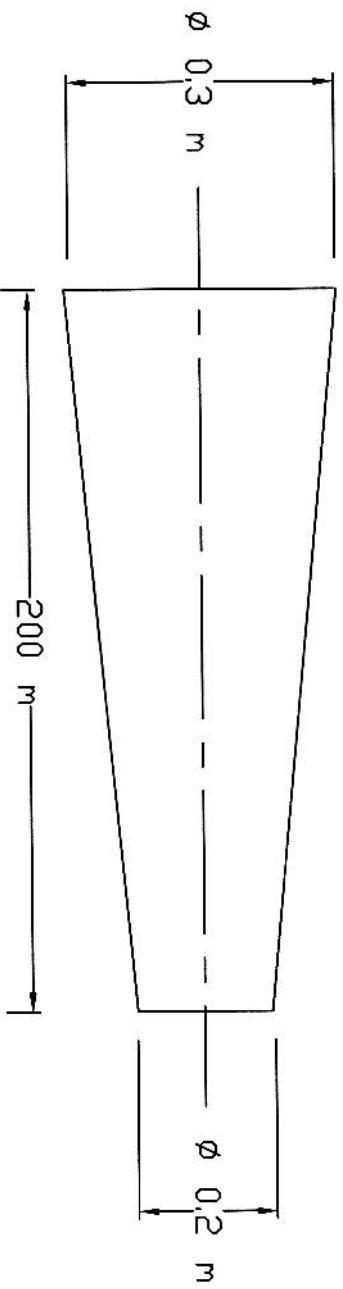

Fig 2
- (c) What do you mean by non Newtonian fluid? Give two examples of non Newtonian fluid. (4)
- 2(a) Derive an expression for three dimensional continuity equation for incompressible unsteady fluid flow. (8)
- (b) A fluid of constant density flows at a rate of 15 liters/s along a pipe AB of 100 mm diameter. This pipe branches at B into two pipes BC and BD each of 25 mm diameter and the third pipe BE of 50 mm diameter. The flow rates are such that the flow rate through BC is three times the flow rate through BE and the velocity through BD is 4 m/s. Find the flow rates in the three branches BC , BD and BE and the velocities in pipes AB,BC and BE. (8)
- (c) Mathematically determine the total accelerations of a fluid particle moving along a curvilinear path. (4)
- 3(a) State the assumptions of Bernoulli's equations (4)
- (b) 50 liters / s of water flows in a horizontal pipe line of 200 m long as shown in Fig 2. The pipe tapers from 0.3 m diameter to 0.2 m diameter. If the pressure at the large end diameter is 98.1 kN / m2 , calculate the pressure on the other end of the pipe. Neglect any loss in the pipe. (8)
- (c) Derive an equation to measure the quantity of water flowing through a horizontal pipe with the help of an orifice meter (8)
- 4(a) A right angled triangular v-notch weir is used to measure the flow rate of water from a channel and it is estimated that the error in measuring the head could be 1.5mm. For a discharge of  $0.28\text{m}^3/\text{s}$ , determine the percentage of error of discharge which may occur due to the error of measuring head . Take co-efficient of discharge is 0.6. Derive the formula you have used to measure flow rate of water of a channel with help of right angled triangular v-notch (8)
- (b) With the help of neat sketch derive the expression for the time of emptying liquid from a hemi-spherical tank having an orifice at the bottom . (7)